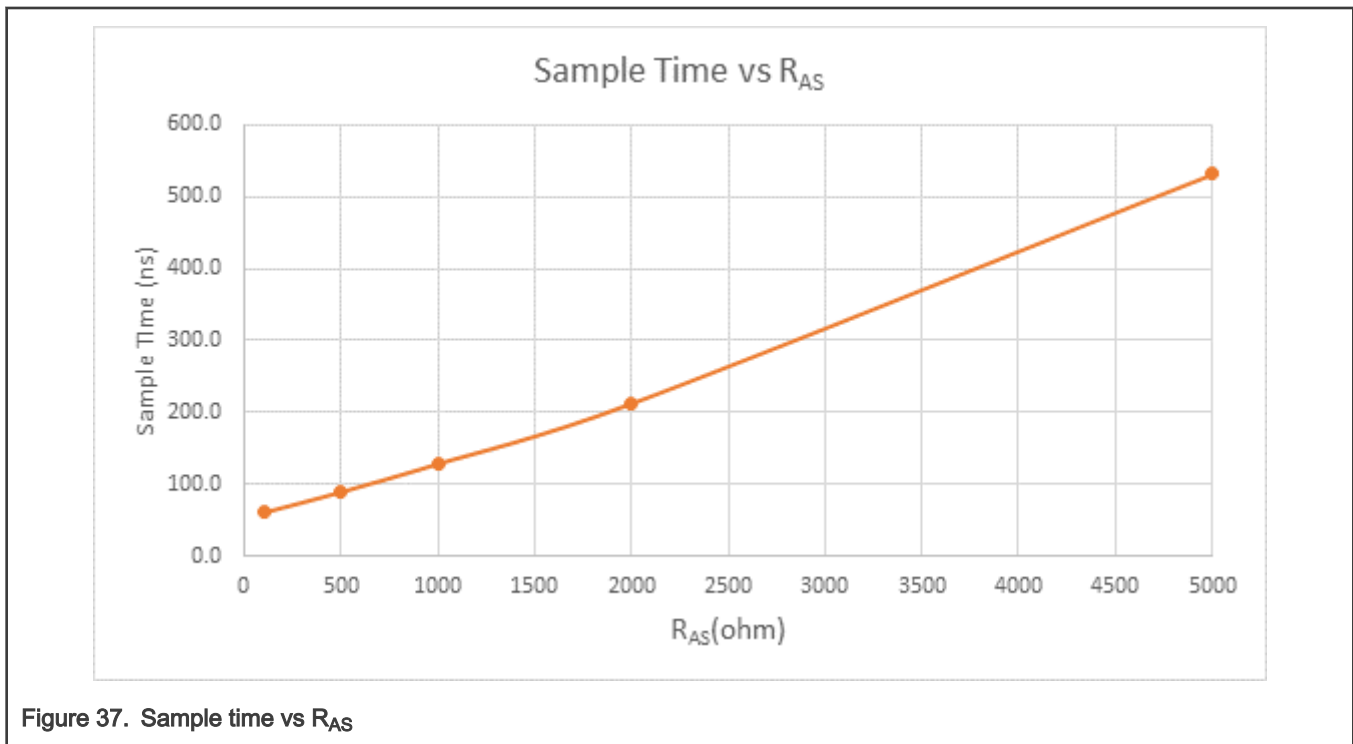

Figure 37. Sample time vs RAS
2. See Figure 37.
4. See Figure 37.